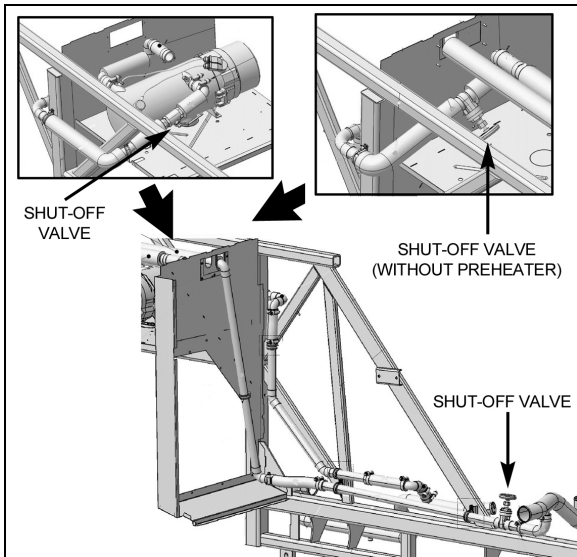

FIGURE 12: HEATER LINE SHUTOFF VALVES 05144
1. Stop engine and allow engine to cool. Close both heater line shut-off valves. One valve is located in the engine compartment near the water pump (Fig. 12). Another valve is located behind rear fender, above the L.H. rear wheelhousing near the optional coolant heater.